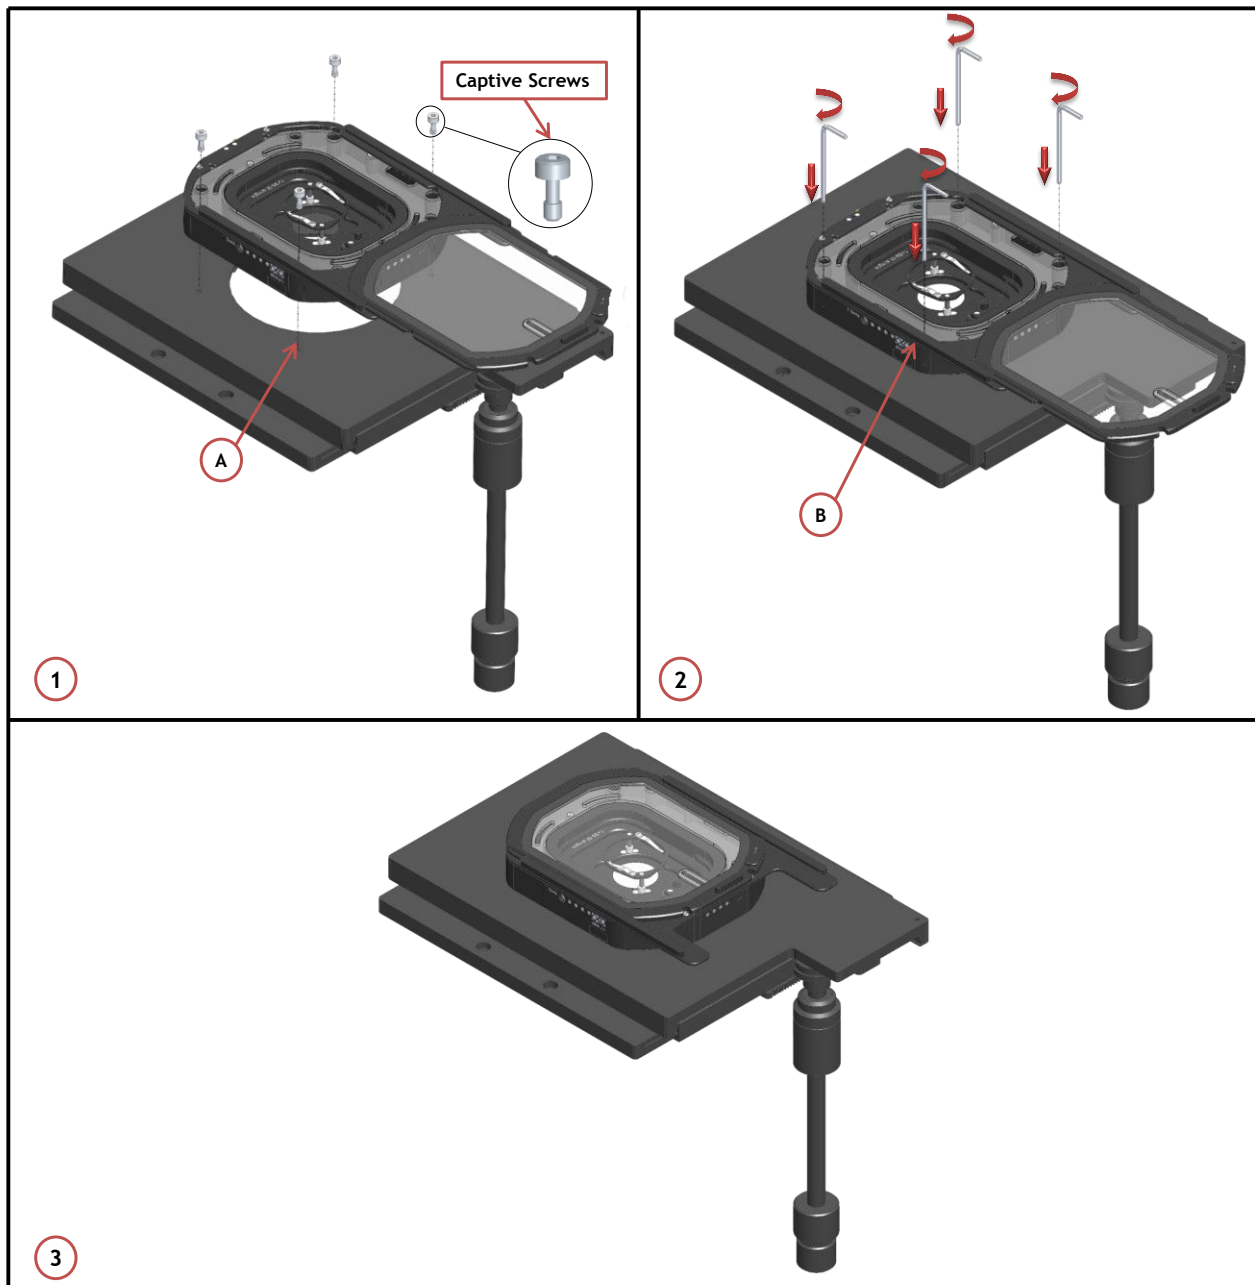

Figure 18. Connection of the Chamber with XY Stage
Follow the steps shown in the images in Figure 18 and listed below in order to correctly connect the chamber with XY stage.
1. Place the chamber on the stage and tighten 4 captive screws (See Figure 18 Image 1 and Image 2). Captive screws housings are indicated with letter B in Figure 18 Image 2
2. Use a 3mm metric Allen Wrench to tighten the four captive screws while keeping the chamber sliding lid open (See Figure 18 Image 2)